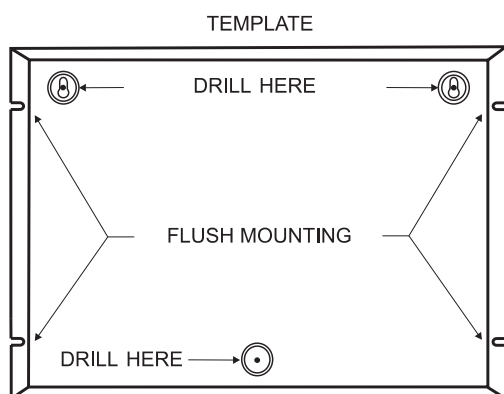

Figure 4
- Use the template in the set to fix the mounting holes of the metal box on the wall - see Figure 4.